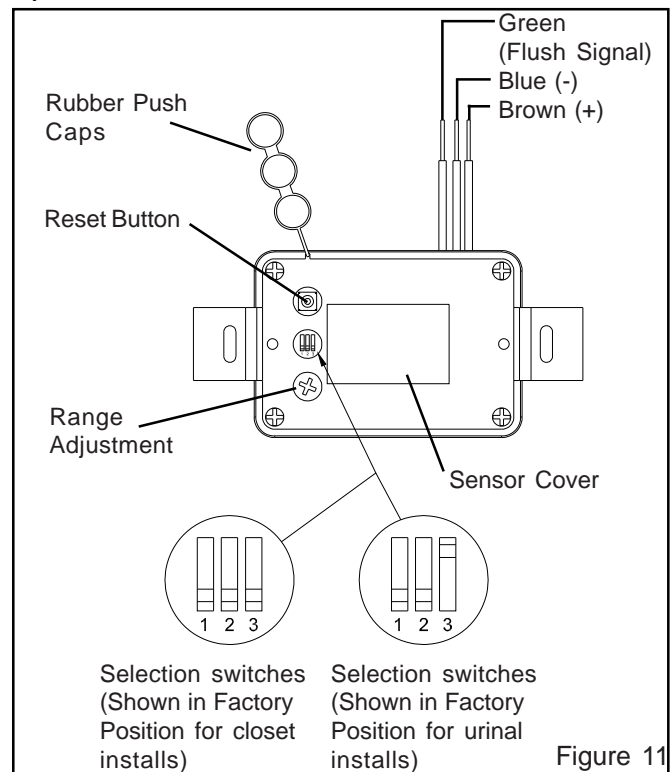

Figure 11
Test and Adjustment (Figure 11)
• Switch Settings (Figure 11)